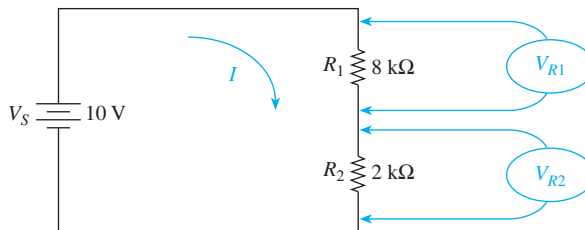

Figure F-3 A series circuit used to derive the voltage divider equation.
Find the current in the circuit (I), the voltage across R_1 (V_{R1}), and the voltage across R_2 (V_{R2}) in Figure F-3.
F-3. In a series voltage-divider circuit like Figure F-3, the larger resistor will have the larger voltage across it. True or false?
- F-4.** In Figure F-3, if R_1 is changed to $8\text{ M}\Omega$ and R_2 is changed to $2\ \Omega$, V_{R2} will be close to _____ ($0\text{ V}/10\text{ V}$).